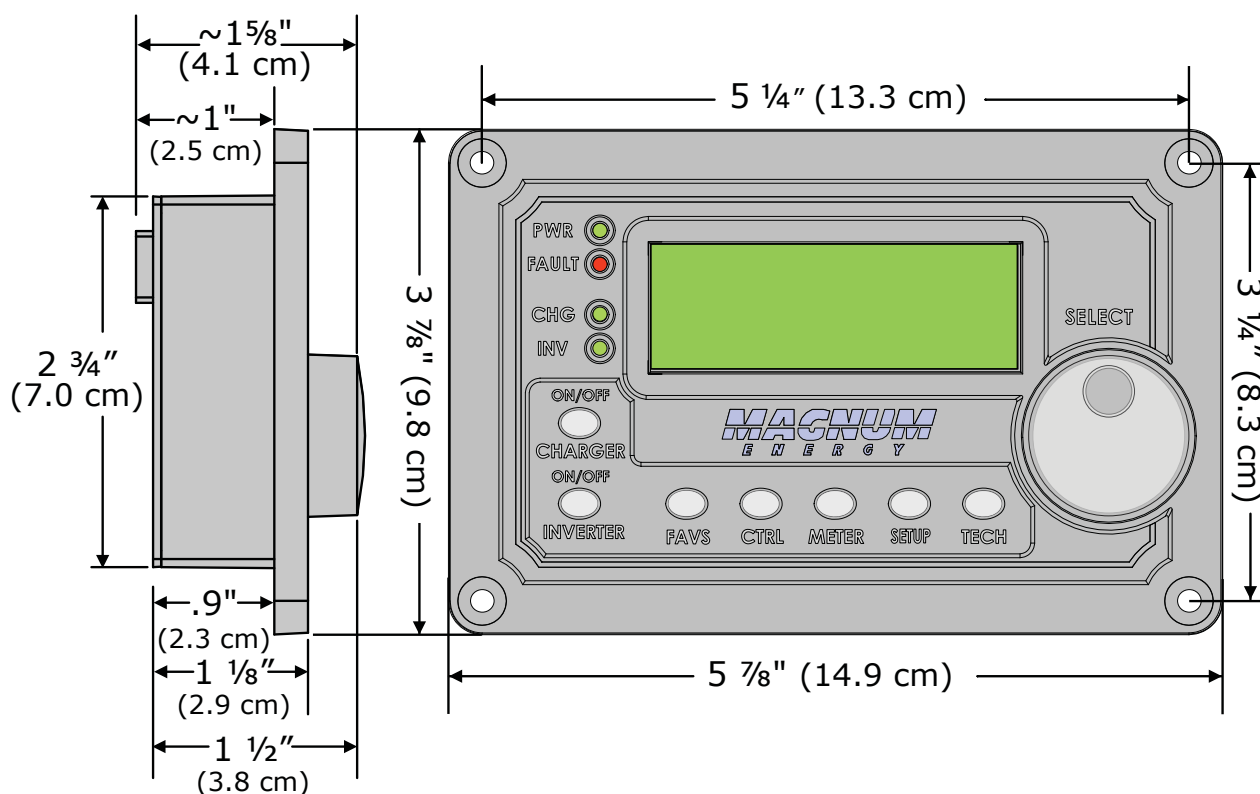

Figure 2-3, ME-ARC Remote Dimensions
Use the information below (Figures 2-3 and 2-4) in preparation for mounting the ME-ARC remote and the bezel (if applicable). Directions for mounting both follow in Section 2.4.
2. Drill four pilot holes for the #8-32 screws that will attach the remote to the wall (refer to Figure 2-3 for hole locations and dimensions).